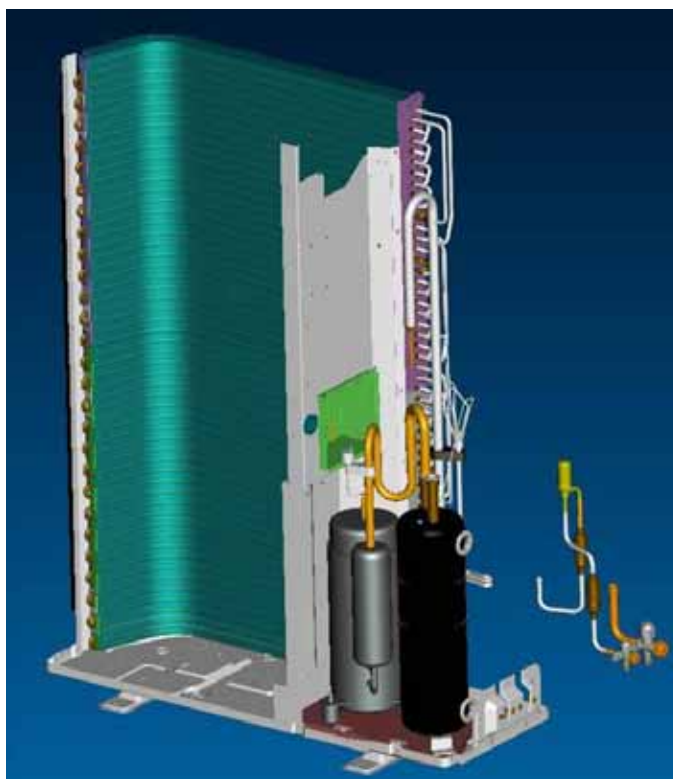

Fig.12
- welding out the pipe connected to the gas valve **[See Fig.12]**
- welding out the pipe connected to the liquid valve **[See Fig.12]**